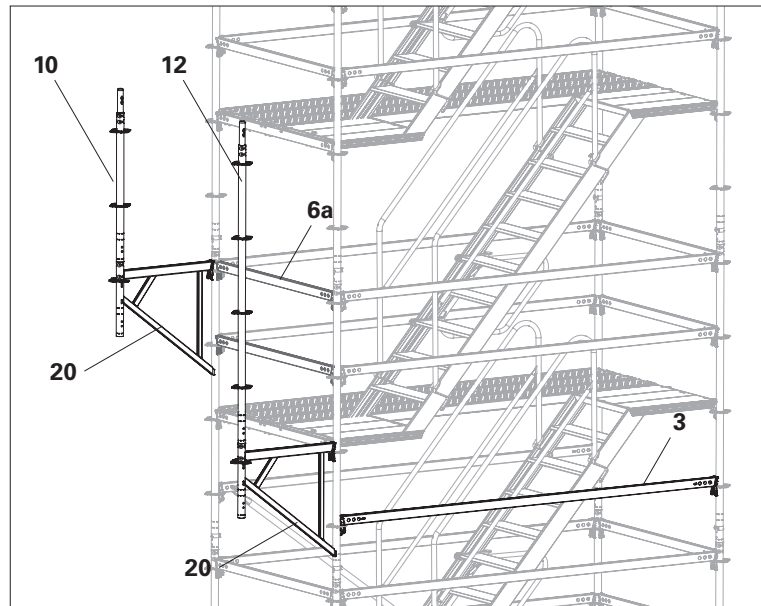

Fig. A7.02
3. Add Horizontal Ledger UH-2 300(**3**) 50 cm beneath the suspension of the console bracket, if not available. (Fig. A7.02)